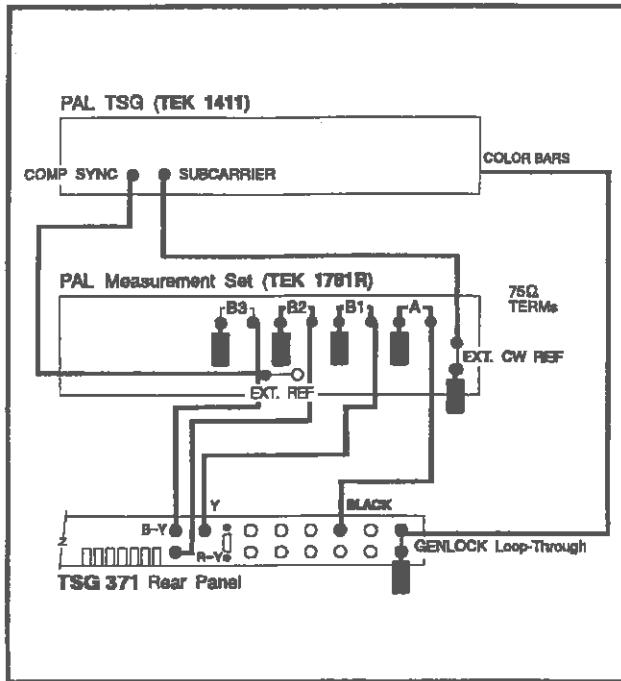

Fig. 5-6. Setup to test the BLACK output.
- a. Connect test equipment as in Fig. 5-6, select WFM + CAL and CH A INPUT.